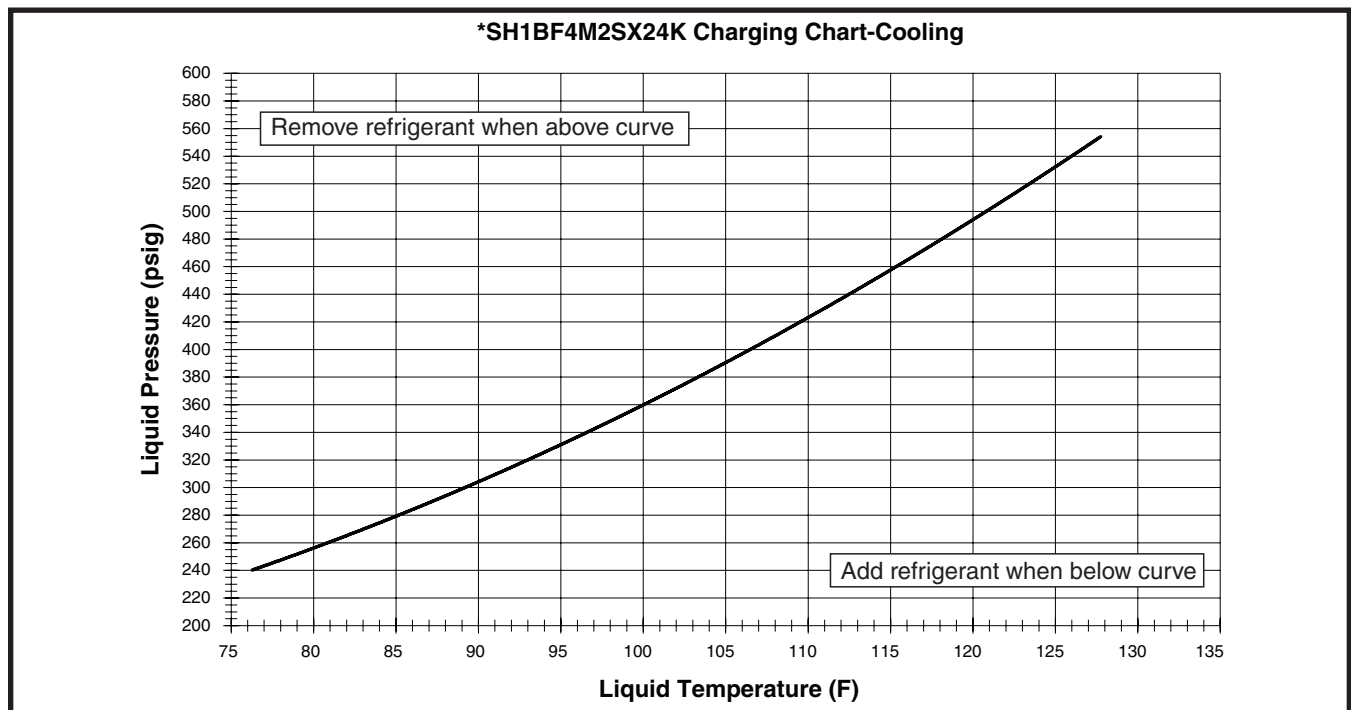
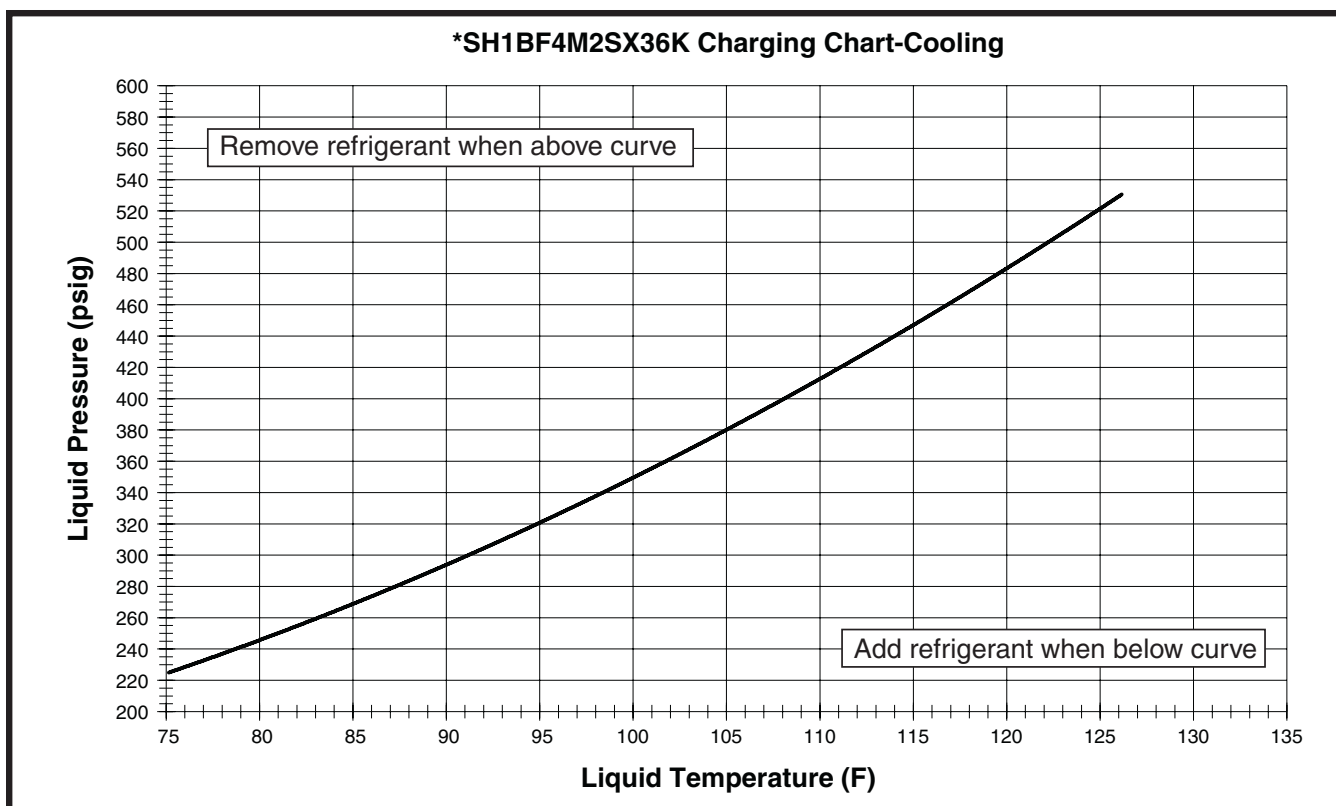
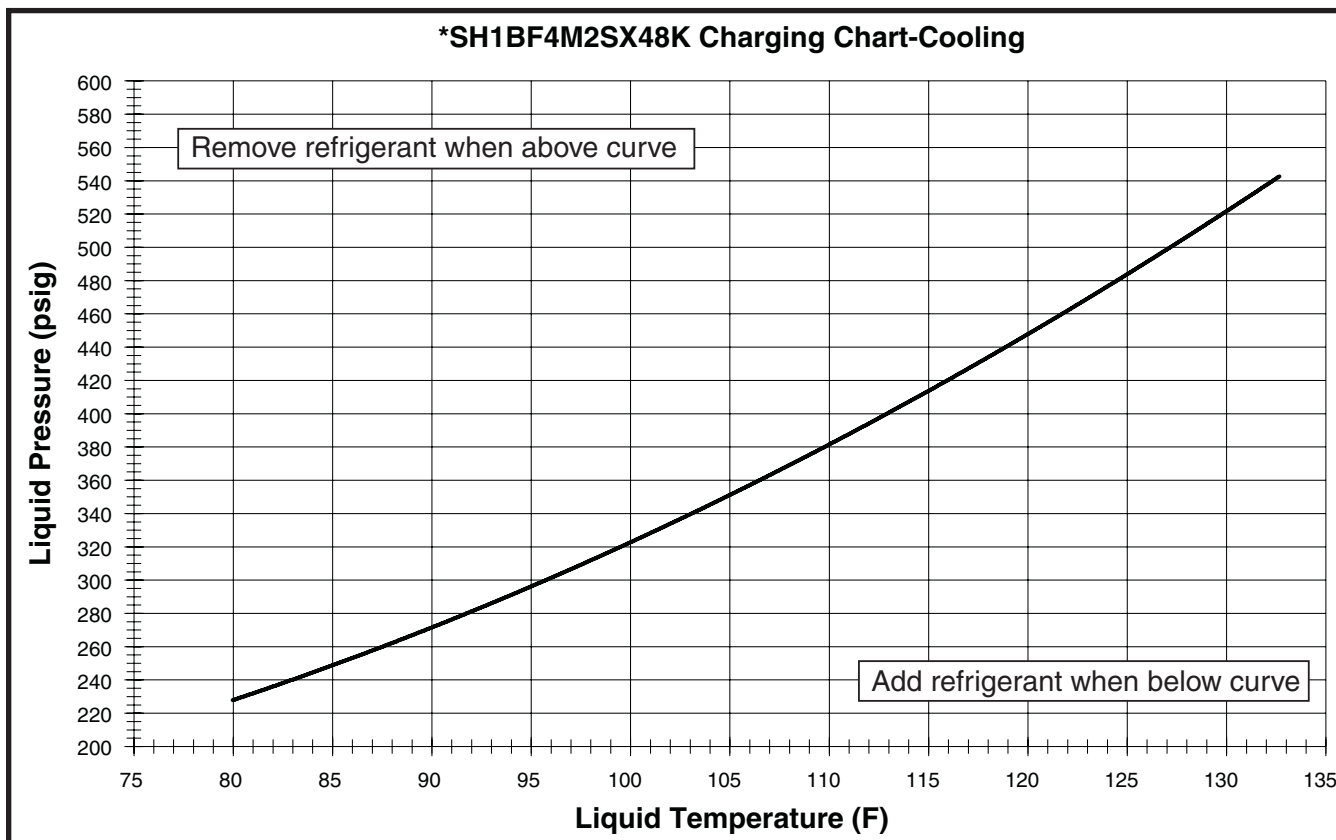
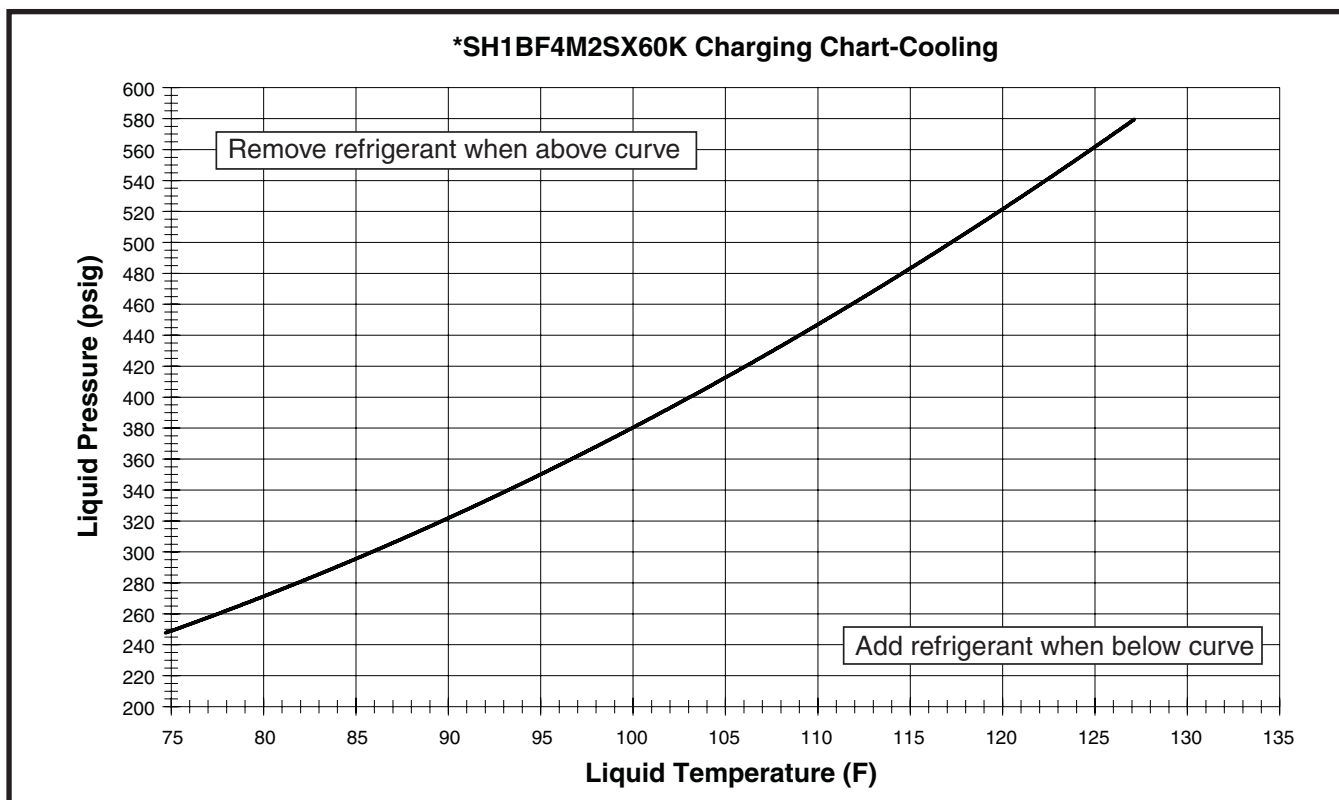

Figure 6. Charging Chart for 2 Ton Units
Figure 7. Charging Chart for 3 Ton Units
Figure 8. Charging Chart for 4 Ton Units
Figure 9. Charging Chart for 5 Ton Units
3. Determine the required liquid refrigerant pressure. See Figure 6, \(page 10\), Figure 7, \(page 11\), Figure 8, \(page 11\) & Figure 9, \(page 12\).
- Cooling mode charging charts are applicable only to matched assemblies of this equipment and listed airflows for the indoor coil. Outdoor units with non-AHRI listed indoor coils are not recommended and deviations from rated airflows or non-listed combinations may require modification to the expansion device and refrigerant charging procedures for proper and efficient system operation. Refer to Figure 6, (page 10), Figure 7, (page 11), Figure 8, (page 11) & Figure 9, (page 12) for correct system charging.
- As shown in Figure 6, Figure 7, Figure 8 & Figure 9 the ideal system sub-cooling can vary over the range of operation. Reference the charts to determine the ideal amount of sub-cooling for a given liquid pressure. Units charged to other values will not perform at the rated unit efficiency (EER) or rated Coefficient of Performance (COP) in heating mode.